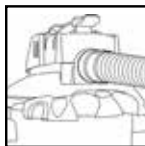

FIGURE 27
47. Your vacuum can be used as a powerful blower. To use your unit as a blower, clear hose of any obstructions. Insert machine hose end into blower port on rear of unit. **FIGURE 27.** Twist slightly to tighten the connection. Caution should be used when using as a blower due to the powerful force of air when using certain attachments.